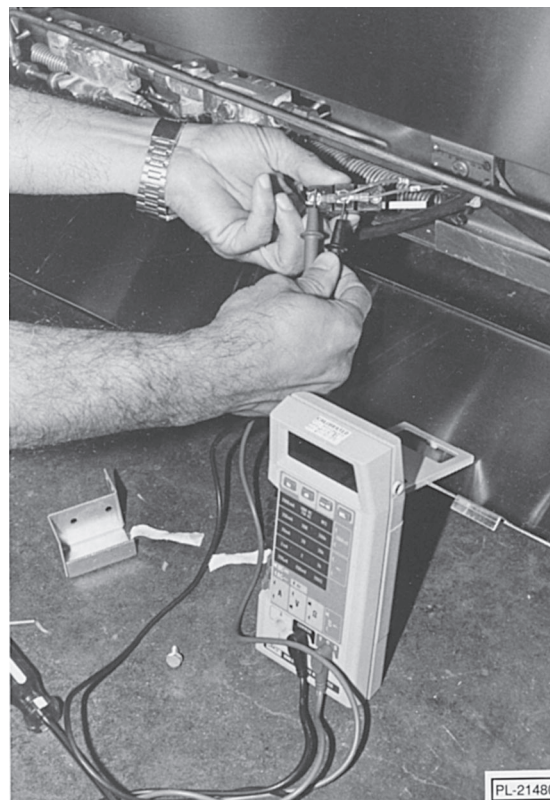

Fig. 50
5. Using a volt meter, check the voltage reading between the normally open and common contacts of the micro switch (Fig. 50) under the following conditions: